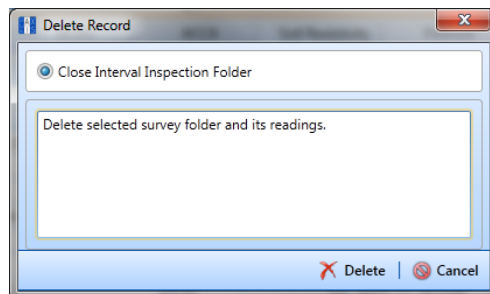

Figure 6-9. Delete Record
- 6 Click **Delete**. When the message *Delete Record* displays, click **Delete** again (Figure 6-9).